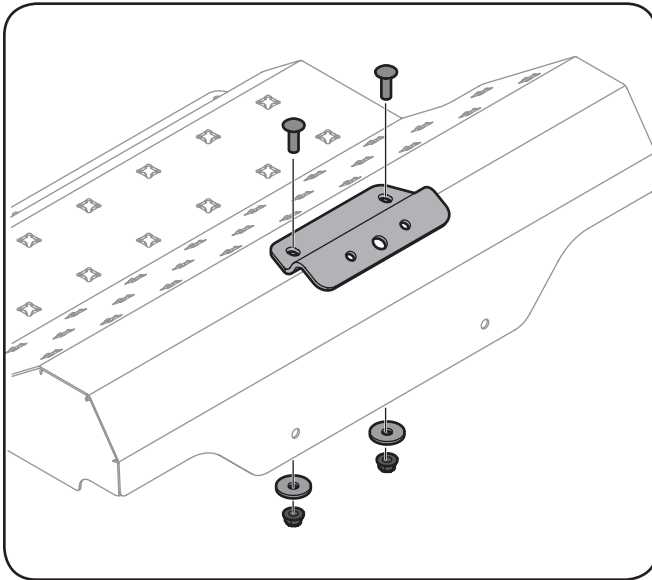

Figure 1-7
9. On tractors with a fabricated floorboard, the headlight mounting bracket needs to be installed on the floorboard before proceeding. Install the headlight mounting bracket (#2) using two carriage screws (#3), two flat washers (#10) and two flange lock nuts (#6) as shown in Figure 1-7.